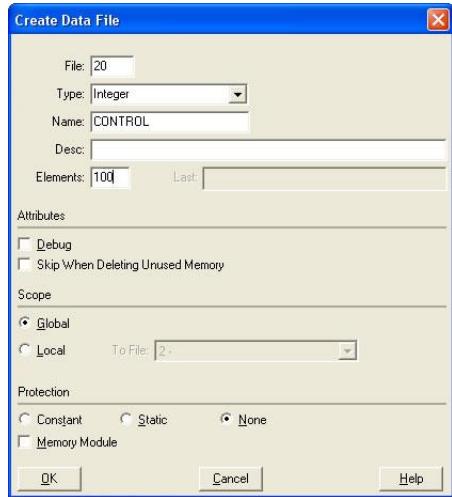

Figure 60: Creating a Control File
- a) Right click Data Files and select New... The “Create Data File” dialog box appears (refer to Figure 60).